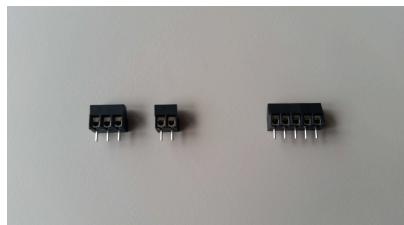

Figure 3.3. 5 pin terminal_block
- 1) Make a 5 pin terminal block by sliding the included 2 pin and 3 pin terminal blocks into each other Figure 3.3.